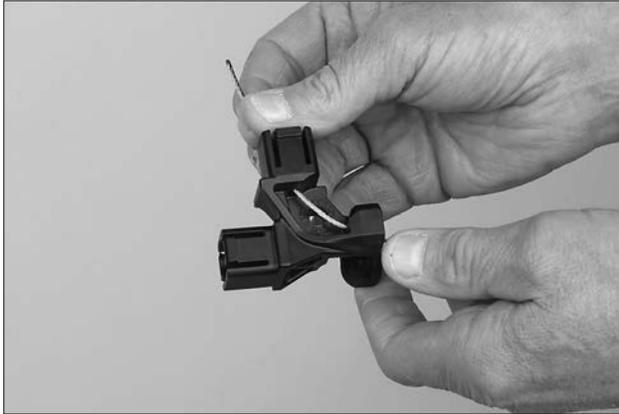

FIGURE 5-73
4. Pull wire rope out of the large end of the block. See Figure 5-73.